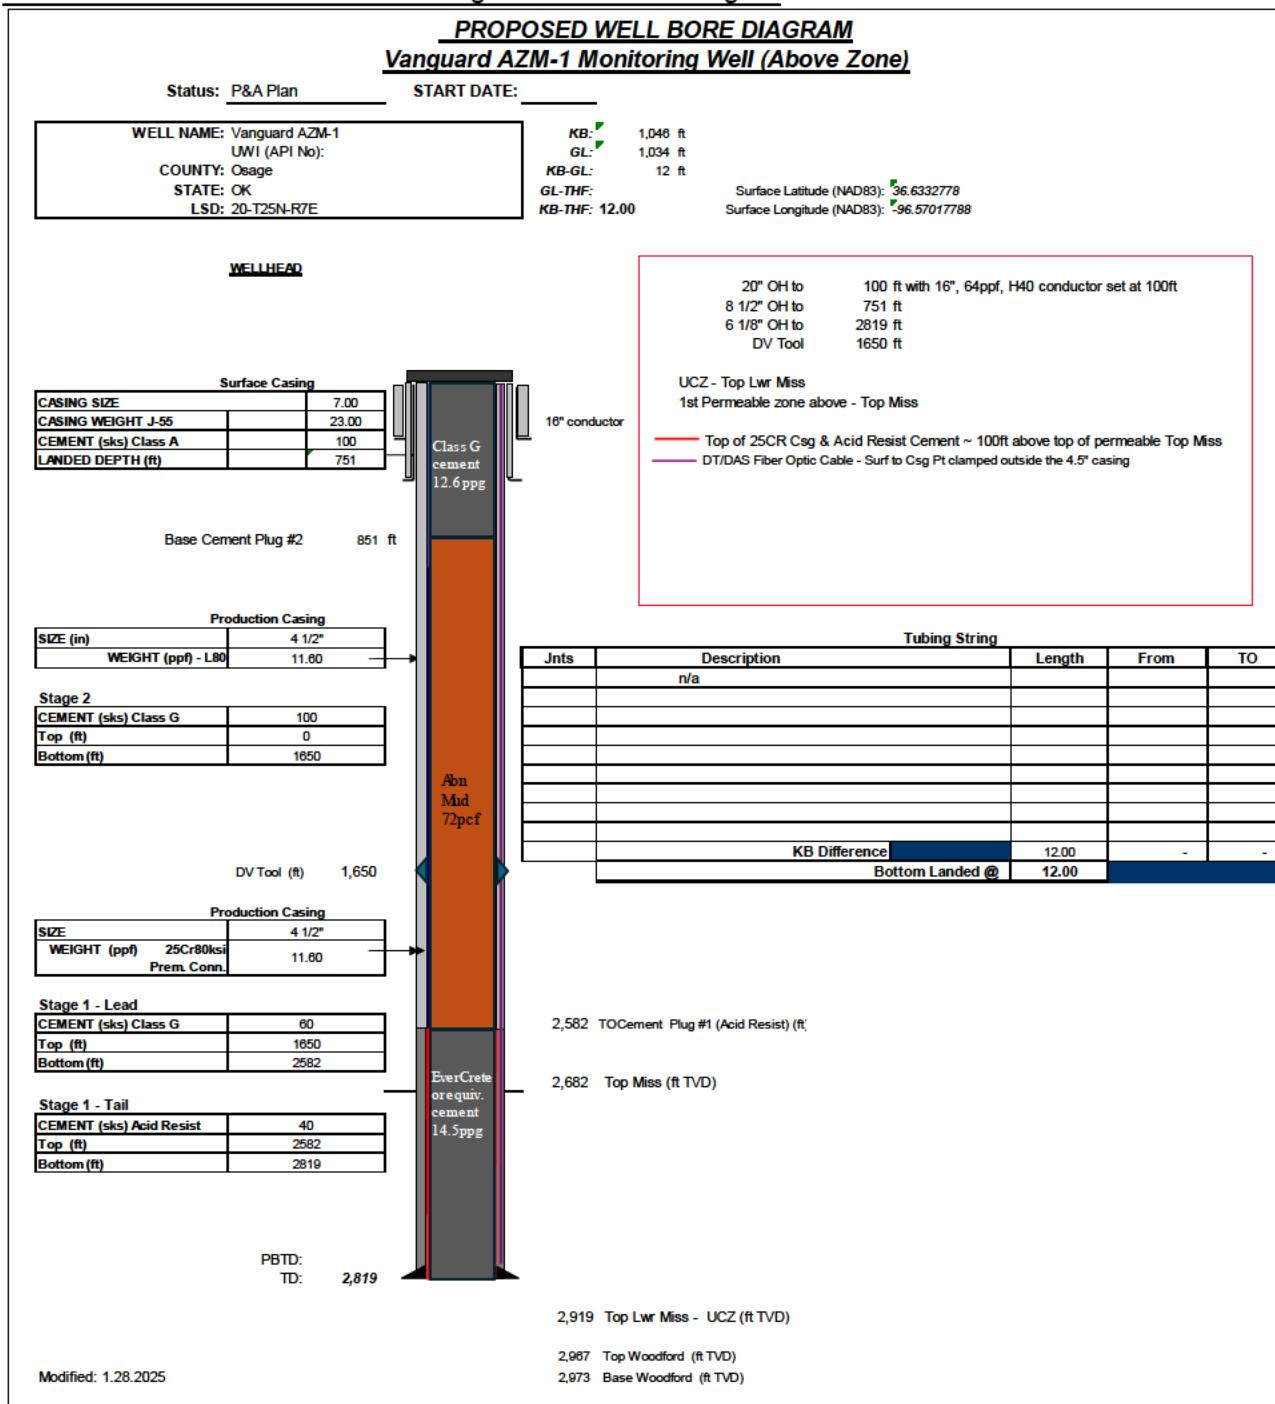

Figure 9-3—Diagram of the proposed abandonment design for Vanguard AZM-1
**Table 9-6** contains individual cement plug details for the P&A of Vanguard AZM-1 well. **Figure 9-3** is the proposed abandonment configuration diagram for Vanguard AZM-1. The nine remaining above-zone monitoring wells follow a similar P&A scheme; their specific plug details and their abandonment diagrams are in **Attachment 1 – Additional P&A Wellbore Diagrams**. **Table 9-7** contains the individual cement plug details for the P&A for all ten (10) above-zone monitoring wells.